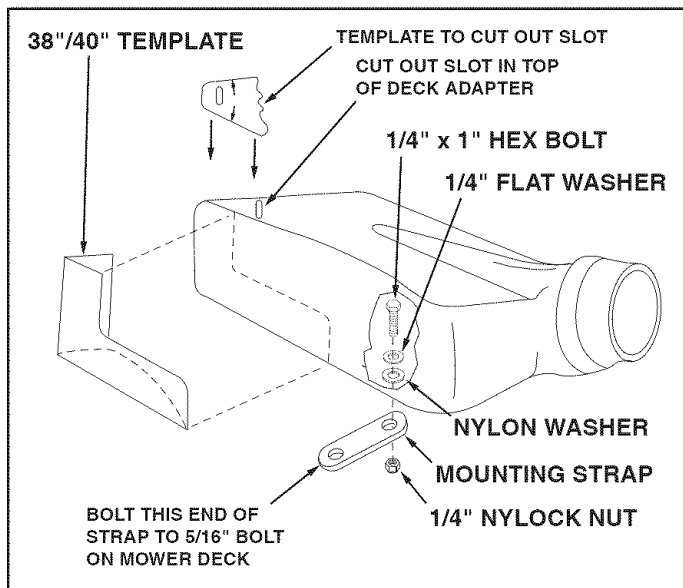

FIGURE 28
- Cut out two templates and place on deck adapter as shown in figure 28. Tape smaller one on top and larger one on the side and bottom. After they are in place, carefully mark around the templates, then cut out adapter to obtain correct opening.
- Bolt end of mounting strap to the 5/16" bolt on the mower deck. The other end of the strap will bolt to a hole in the deck adapter, which must be drilled. Position the adapter on the deck, then drill a 5/16" hole in the bottom of the adapter that will align with the hole in the strap. Fasten the adapter to the strap using one 1/4" x 1" hex bolt, 1/4" flat washer, nylon washer and 1/4" nylock nut. See figure 28.